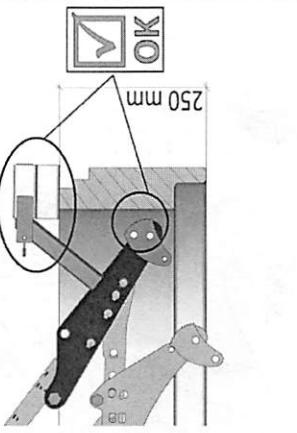

Fig. 4
- Fig. 4 shows a manhole ring with a larger total height as 250 mm (eg 500 mm /~19.5") with "adaptor" fitted for normal use of SVZ-uni" (4400.0079).